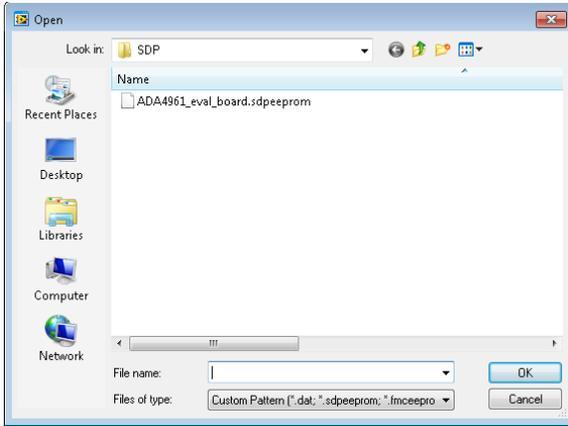

Figure 4. Selection Window for EEPROM Config File
3. Enter 0x54 for the EEPROM address, select 'Load Existing', click on the 'select folder' button (circled in red) and a selection window should appear as shown in Figure 4. You may need to navigate to the directory where this file is stored. Select this option, then OK.